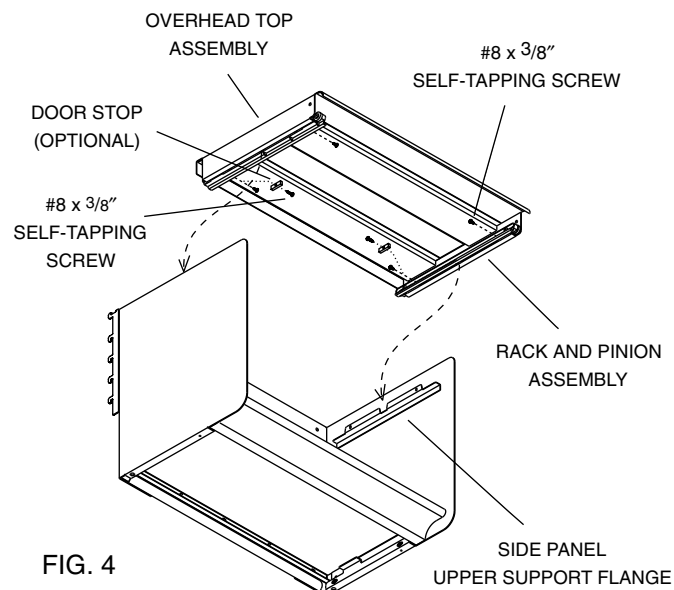

FIG. 4
6. Place the overhead top shelf/door assembly into the upper support flanges of the side panels (Figure 4, page 2-2-5). Push the shelf/door down and align the round front edge of the shelf with the matching round top-front corner on the side panels. Install and tighten (4) #8 x 3/8" self-tapping screws through the (4) larger oblong holes in the rack and pinion door mechanism inside the shelf/door assembly (Figure 4, page 2-2-5).
7. The recessed door may now be pulled out and lowered to its closed position. Adjust the bottom shelf so the door hangs straight and flush with the end panels. Tighten the (4) screws that attach the bottom shelf to the side panels, the (2) screws that attach the cabinet back to the shelf and the (6) flange nuts.
4. Insert a #8 x  $\frac{3}{4}$ " self-tapping screw through the oval shaped door stop, and attach the door stop to the rack mechanism where the rear screw was just removed (Figure 4).